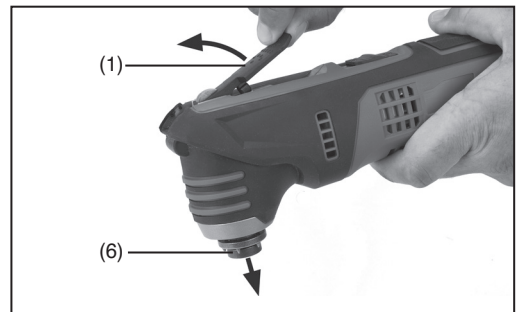

FIG. 1
6.1 ATTACHING THE SANDING BACKING PAD – FIGS. 1 - 4